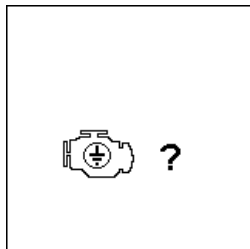

Fig.76
14. If you did not follow the right procedures during the testing, it will display the results as follows (Fig. 76) below: